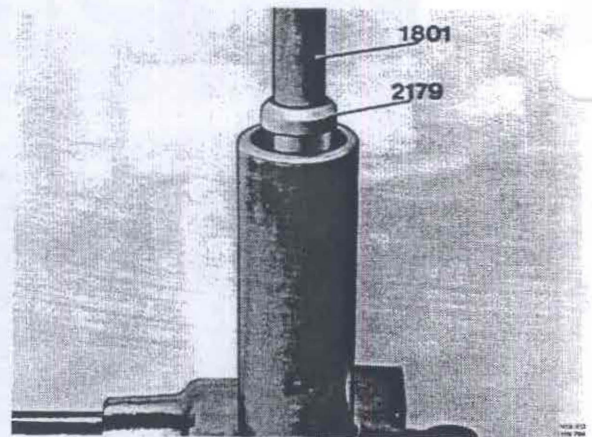
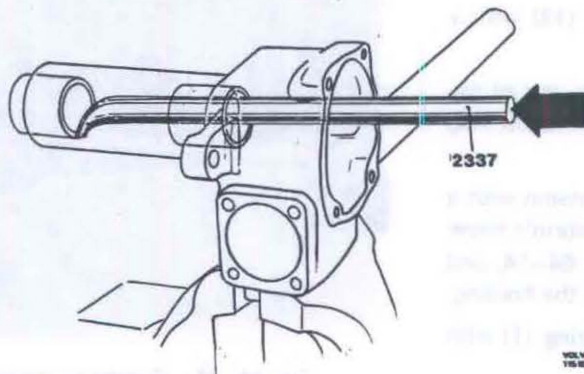

Fig. 64-18. Fitting the bushing
Fig. 64-17. Removing the bushing
4. Check the sector shaft bushings (2, 4 and the one in the upper cover), see Fig. 64-1. If loose, replace the bushings. Knock out the bushings (2 and 4) with drift 2337 in their own direction, see Fig. 64-17. The bushing in the upper cover cannot be replaced, and for this reason the cover must be replaced complete. The bushings are pressed in each from their own direction with drift 2179 and standard handle 1801, see Fig. 64-18.